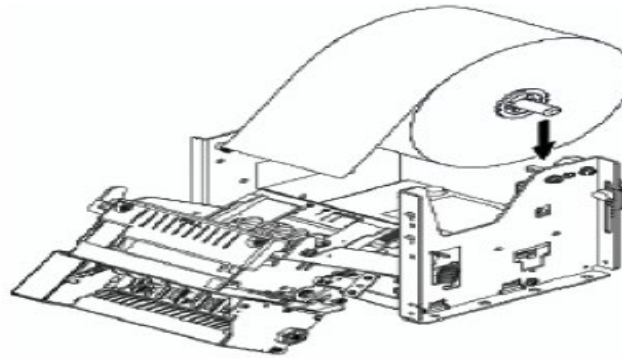

Figure 76. Printer paper direction
- Insert the new paper roll into its position. Ensure the paper feed direction over the spool matches the direction shown in Figure 76